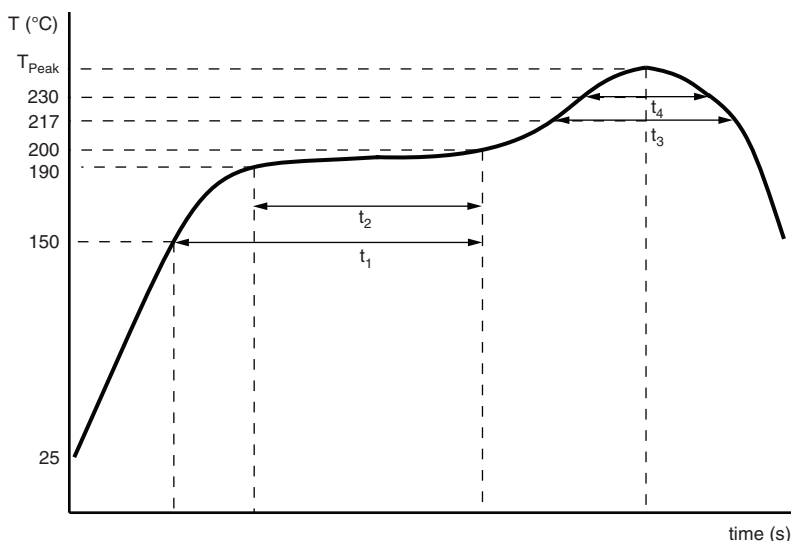

Fig. 5 - Maximum temperature load during reflow soldering
For maximum conditions refer to Fig. 4 or Fig. 5.
(2) Advanced reflow soldering profile, according to JEDEC J-STD-020, see Fig. 5 and Table 5
(3) Determines the applicable row in the table "Endurance Test Duration and Useful Life"